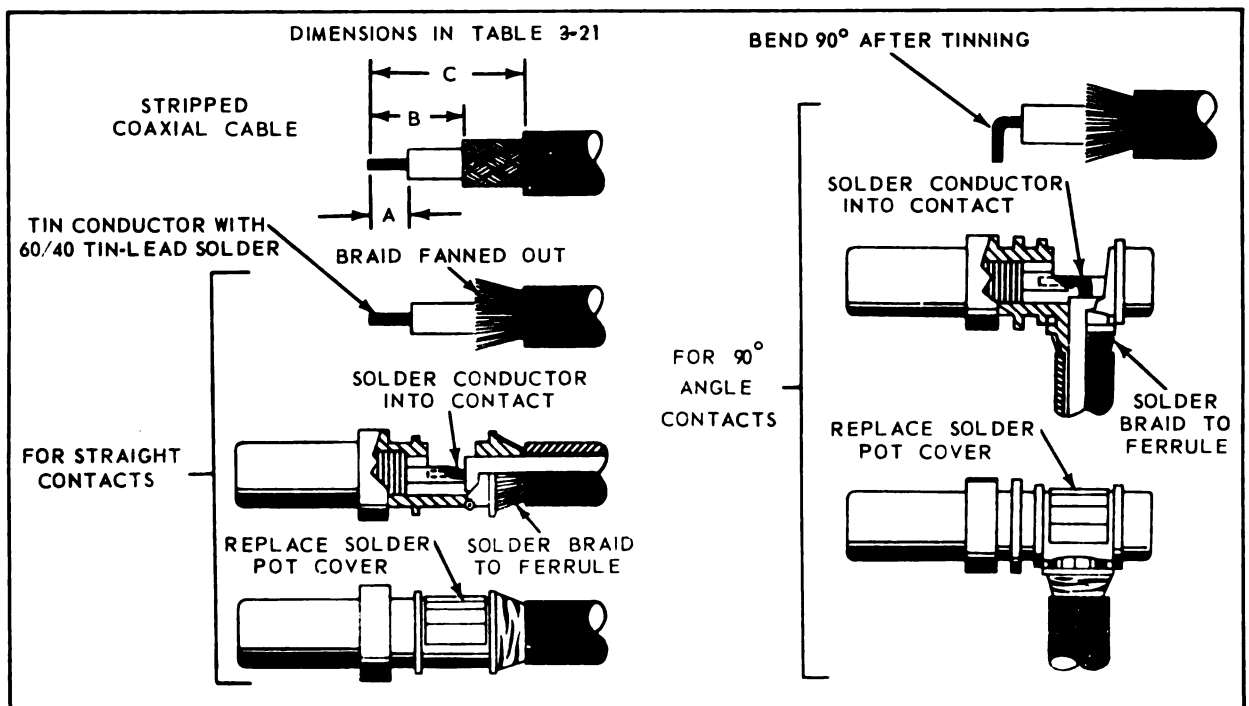

Figure 3-75. Soldering Coaxial Cable to Contacts for DPD Connector
c. Remove stop nuts on rear of shell to free coaxial contact retaining clips. Coaxial contacts are removed from rear of insert. (See figure 3-75)